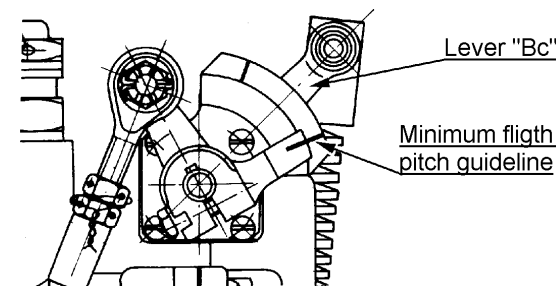

Figure 11-23 Lever "Bc" basic position
- 3 Guideline on the lever aligns with minimum flight pitch guideline on the governor scale (figure 11-23).